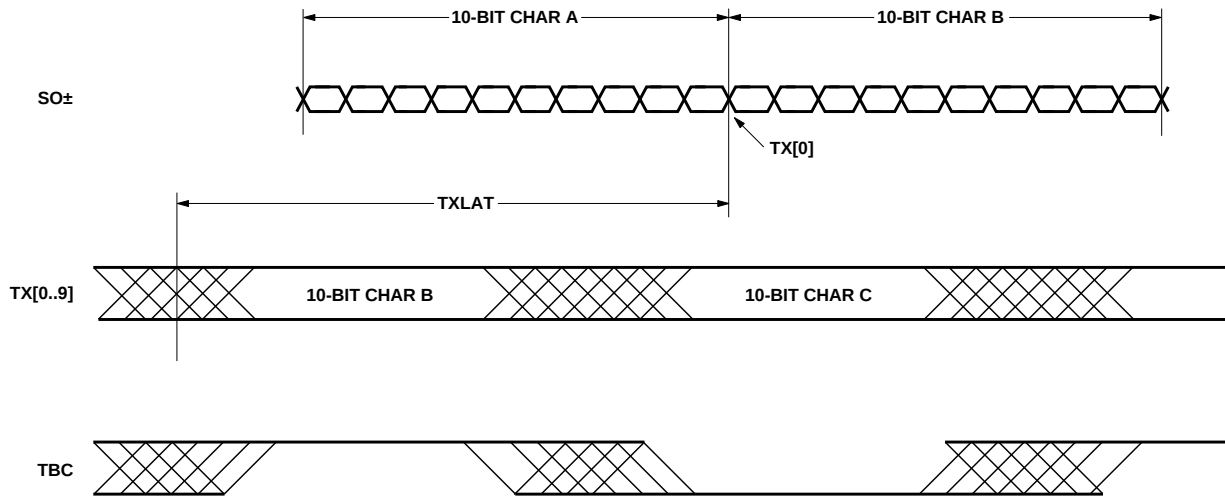

Figure 4. Transmitter latency. $TX[0]$ is first bit on $SO_{\pm}$.
1. The transmitter latency, as shown in Figure 4, is defined as the time between the leading edge of a parallel data word and the leading edge of the first transmitted serial output bit of that data word.